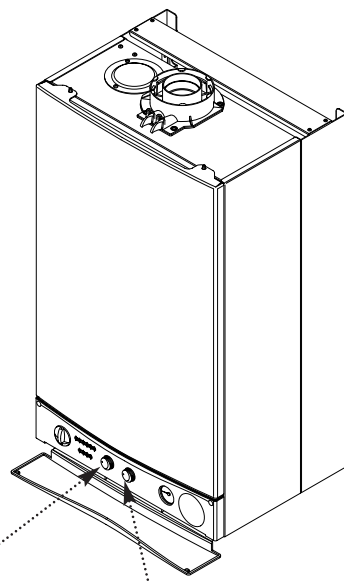

Fig. 7 Central Heating
2. Turn the control knob clockwise to increase the temperature (Fig. 7). In normal winter usage we recommend that the central heating temperature be set at maximum.